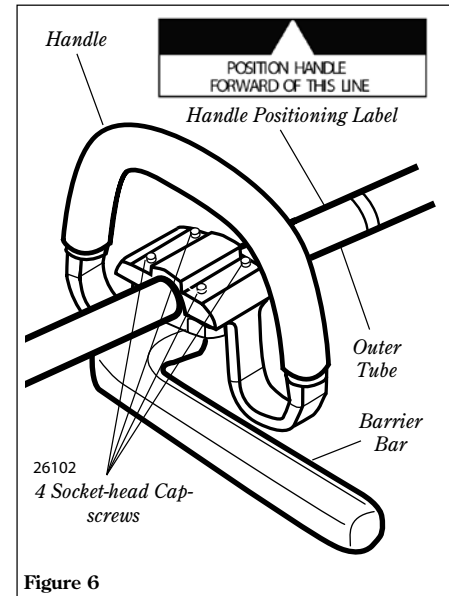

Figure 6
2. Loosen the 4 socket-head cap screws on the handle and rotate the handle until the barrier bar is positioned horizontally on the left side of the unit. See Figure 6.